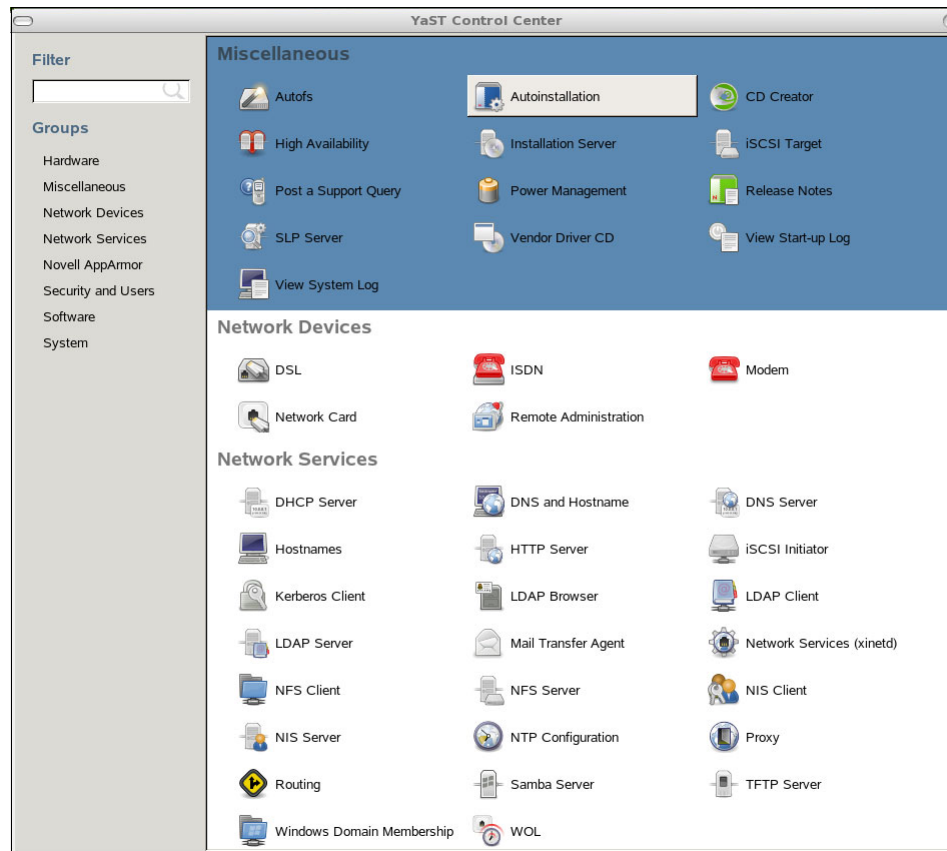

Figure B-3 Selecting the Autoinstallation option
1. Start the YaST application, which opens a window as shown in Figure B-3.